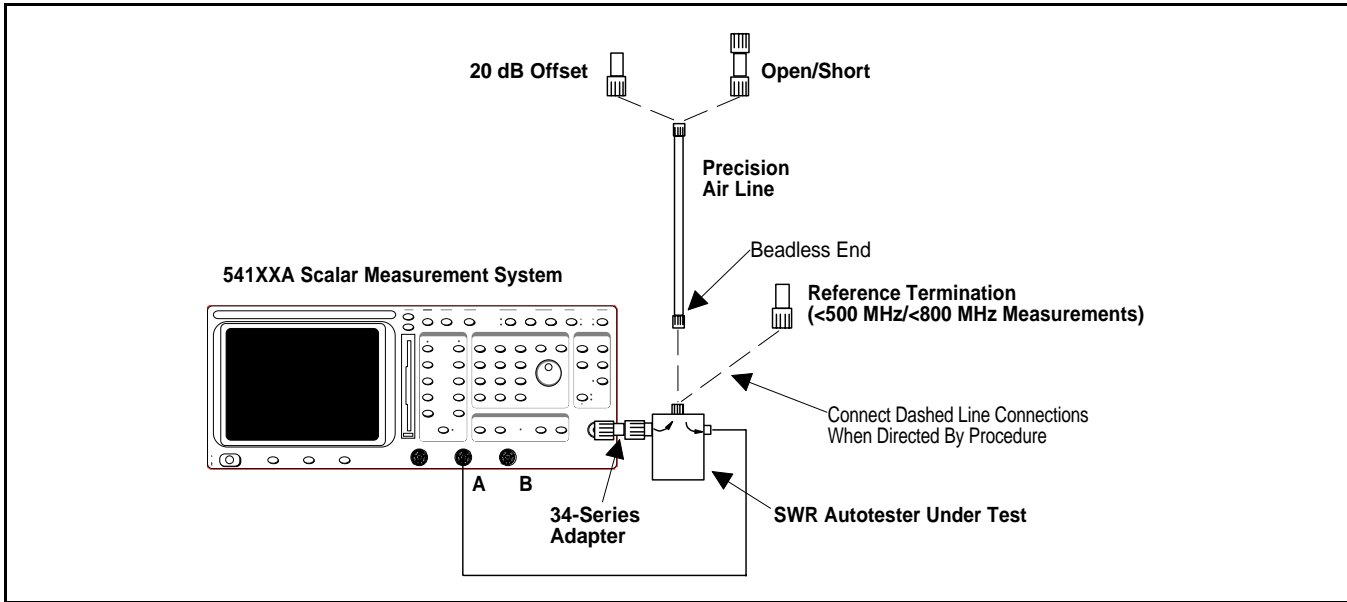

Figure 10. Test Equipment Setup for Directivity Measurement Using 541XXA Scalar Measurement System
1. Connect test setup as shown in Figure 10.